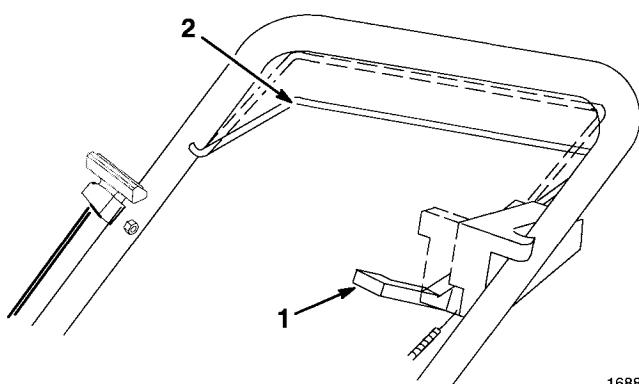

Figure 16
5. To disengage self-propelled drive, lower control bar halfway and move traction control lever forward (toward engine) (Fig. 16).